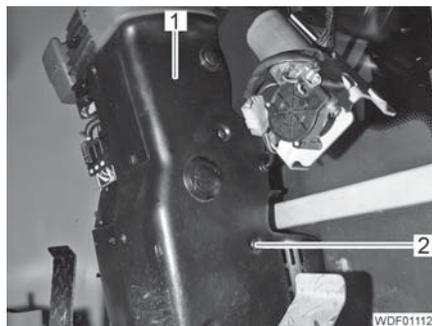
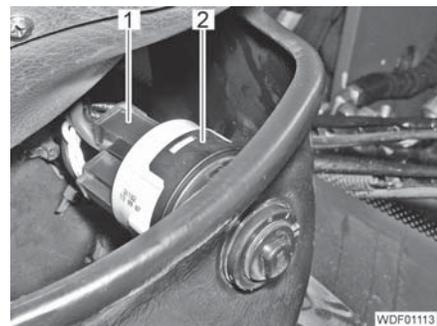

Fig. 393 Cladding attachment
Fig. 394 Ignition lock
- Unscrew the 6 screws (Fig. 393,2).
- Carefully remove the cladding (Fig. 393,1) far enough for the connectors of the ignition lock (Fig. 394,2) to be accessible.
- Remove the plug (Fig. 394,1) from the ignition lock.
- Carefully remove the cladding (Fig. 393,1) to the right.
- Carefully position the cladding (Fig. 393,1) from the right-hand side for the contacts of the ignition lock (Fig. 394,2) to be accessible.
- Attach the connector (Fig. 394,1) to the contact of the ignition lock.
- Position and adjust the cladding (Fig. 393,1).
- Screw in and tighten the 6 screws (Fig. 393,2).